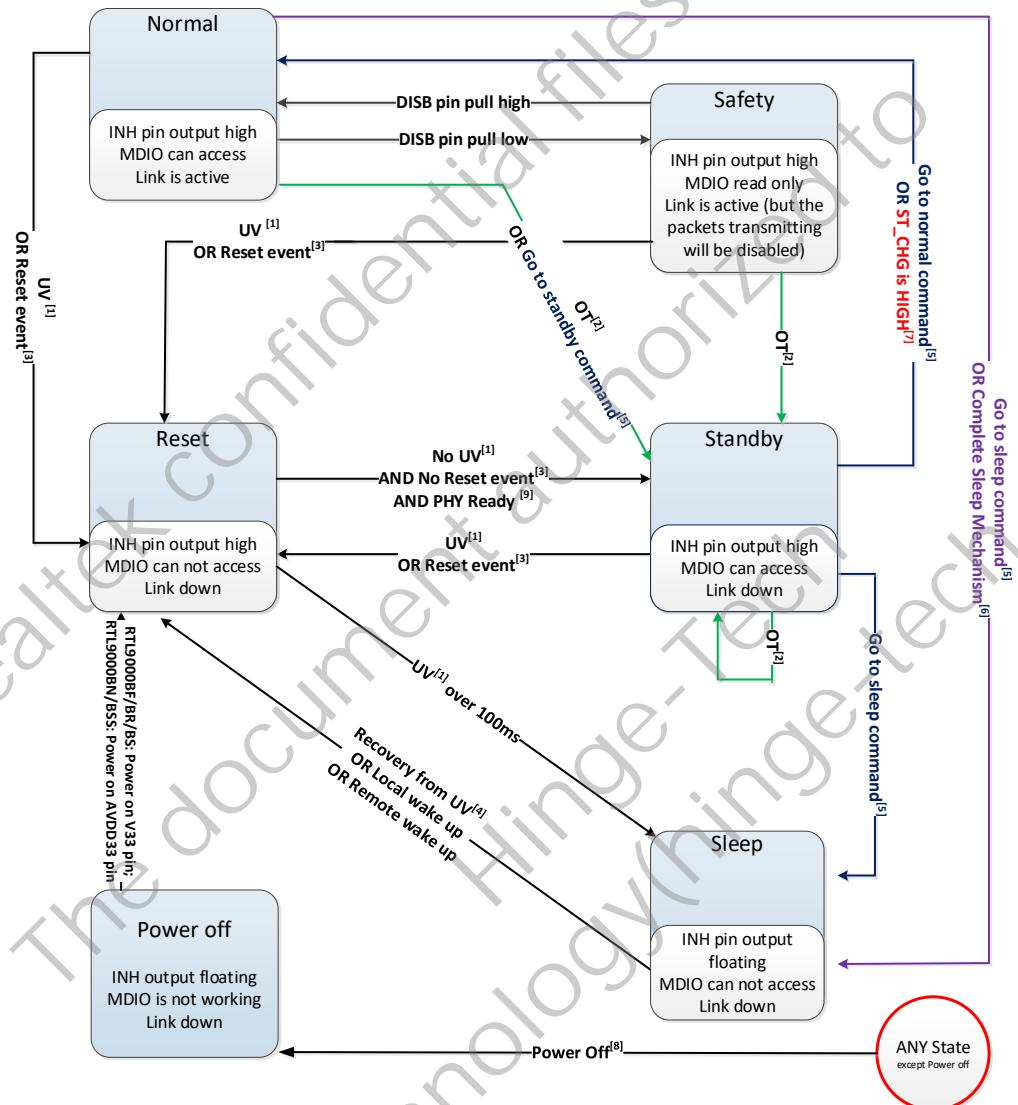

Figure 13. Operating Mode Transitions
Figure 13 shows the transitions of the RTL9000BF/BN/BR/BS/BSS Operating Modes (OP). There are various modes in the PHY, including Power-off, Sleep, Safety, Normal, and Standby modes. Each operating mode has different power consumption (refer to section 11.4, page 147). Availability of establishing the link depends upon whether the MDIO command is accessible or not. The register can indicate Normal, Safety and Standby mode as shown in section 9.2.54, page 113.